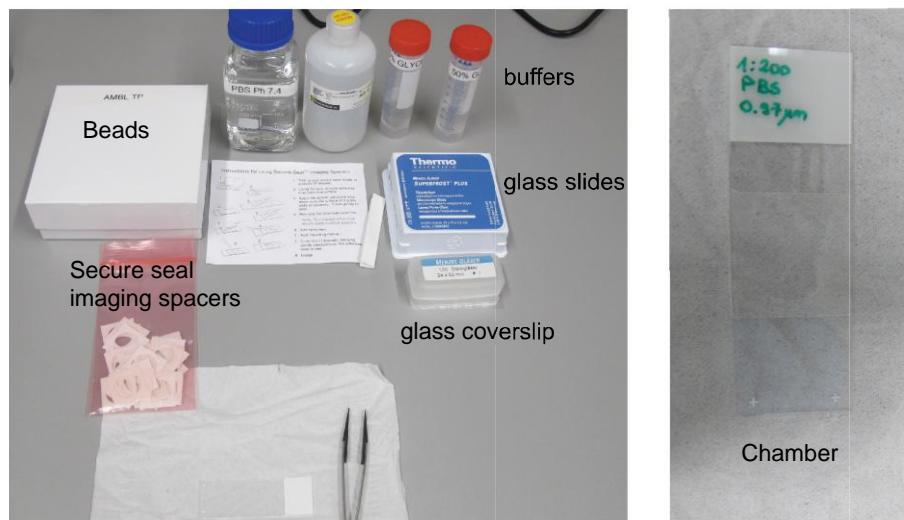

Figure 6. Make a beads slides
- 2) Place a self-adhesive reinforcement ring onto the center of a new slide. This will create a well for the solution and keep it from drying out. See Figure 6.